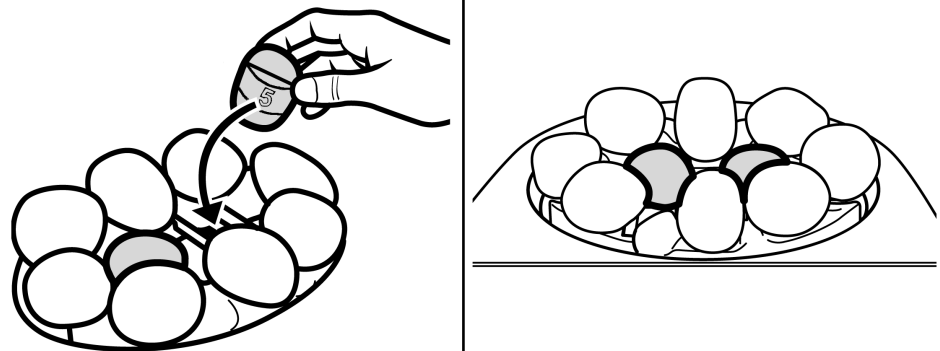

Figure 12 Pebble number '5' Location
9. There are two pebbles numbered '5'. They have a central location peg on the underside. Locate the first pebble '5' centrally between the left hand ceramic support rods (See figure 12). Locate the second pebble '5' centrally between the right hand ceramic support rods (See figure 12)